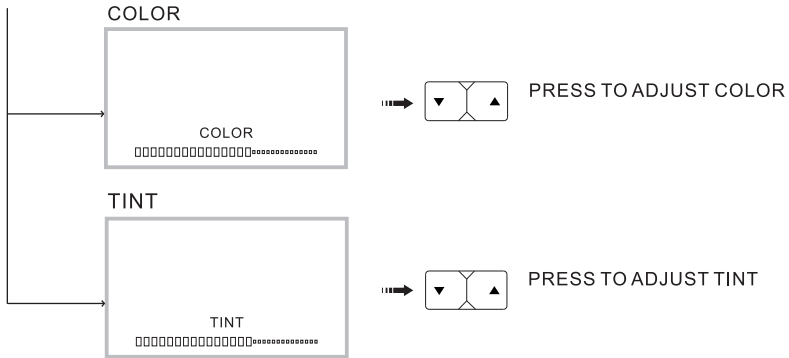

Fig.1 Brightness, contrast, color and tint control
- Each one press less than 1 second enters brightness, contrast, color or tint adjust mode in turns (see Fig. 1)